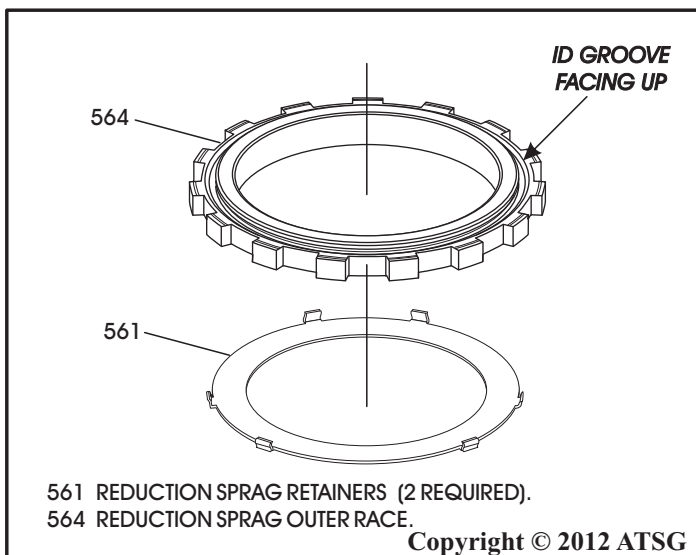

Figure 101
12. Install one reduction sprag retainer on bottom of reduction sprag outer race, as shown in Figure 101.